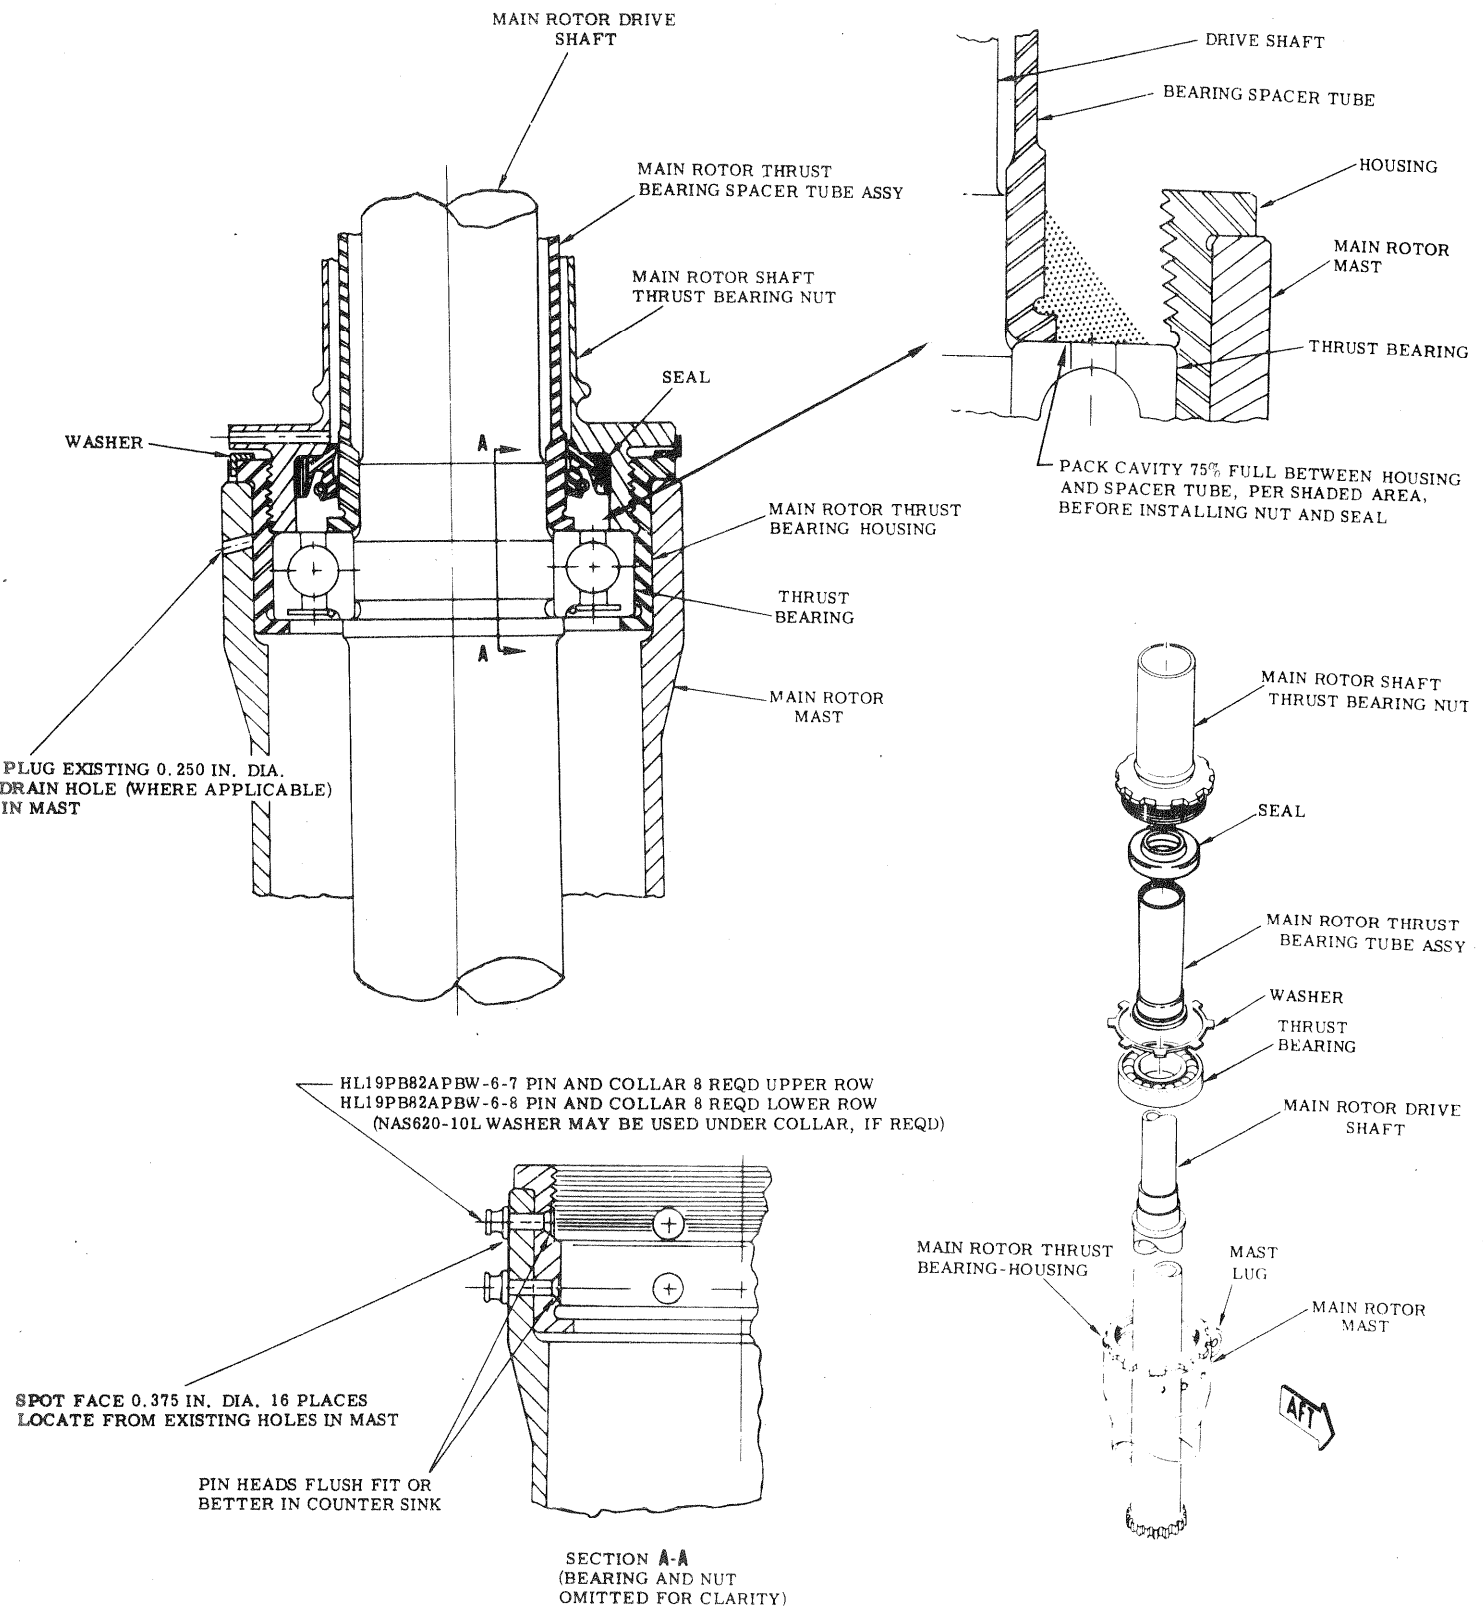

FIGURE 1. BEARING INSTALLATION-MAIN ROTOR THRUST
- h. Spot face holes (16 places) on OD of main rotor mast (See Figure 1); treat mast holes with chrome pickle solution.
q. Pack cavity between spacer tube and bearing housing 75% full with Aeroshell No. 7 or equivalent; do not apply grease to threads of housing. (See Fig. 1)